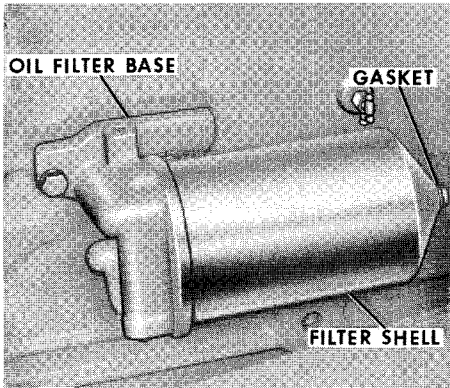

Figure 6
1. Loosen the hex head bolt on the filter shell until the shell and element can be lifted off the base together, Figure 6.
NOTE If leakage is observed between the shell and bolt head, a new gasket must be installed, Figure 6.